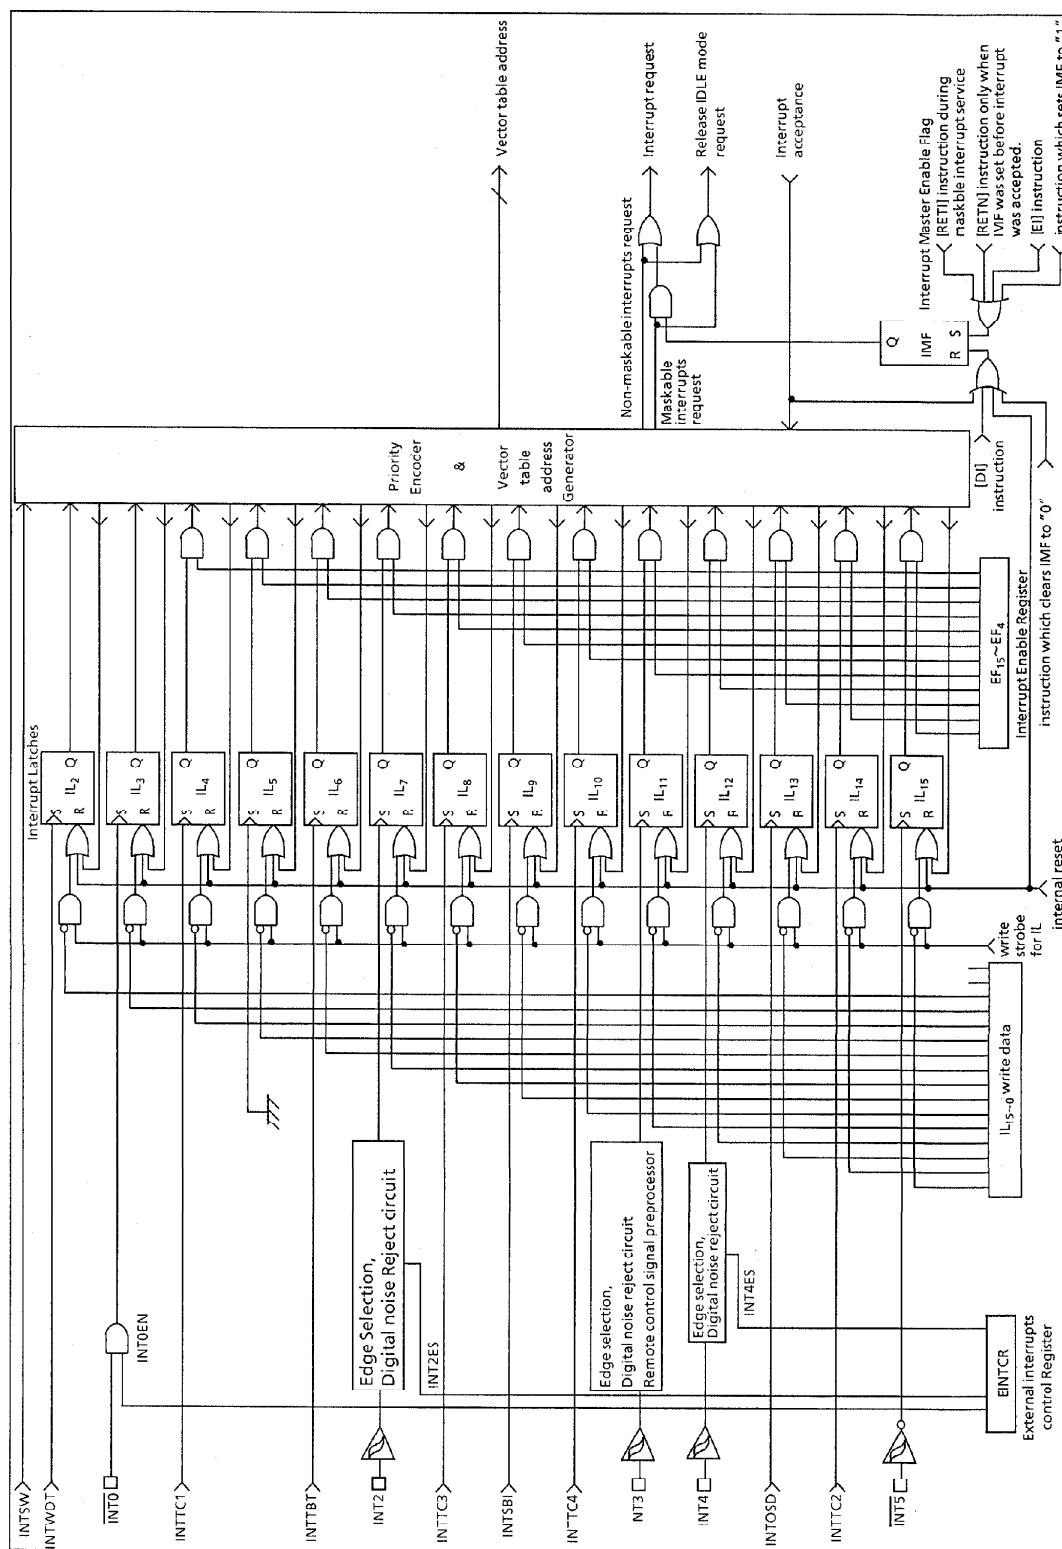

Figure 1-21. Interrupt Controller Block Diagram
The interrupt latch is set to "1" when an interrupt request is generated and requests the CPU to accept the interrupt. The acceptance of maskable interrupts can be selectively enabled and disabled by the program using the interrupt master enable flag (IMF) and the individual interrupt enable flags (EF). When two or more interrupts are generated simultaneously, the interrupt is accepted in the highest priority order as determined by the hardware. Figure 1-21 shows the interrupt controller.